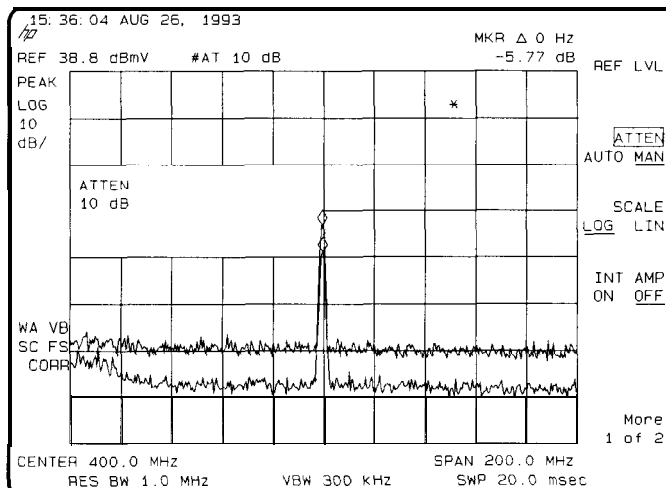

Figure 4-21. RF Attenuation of 10 dB
5. Next, increase the RF attenuation by 10 dB: press [AMPLITUDE], ATTEN AUTO MAN , and the step-up key ([↑]) once. (See Figure 4-21.)